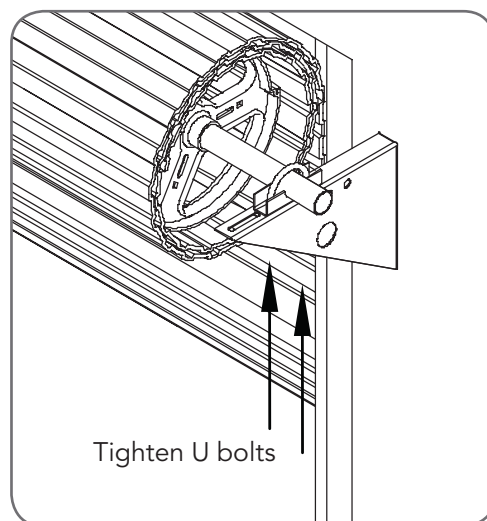

Fig 6.1
- a. At the end opposite to where the opener will be fitted, check that the door axle is tightened to the bracket securely. **(Fig. 6.1)**